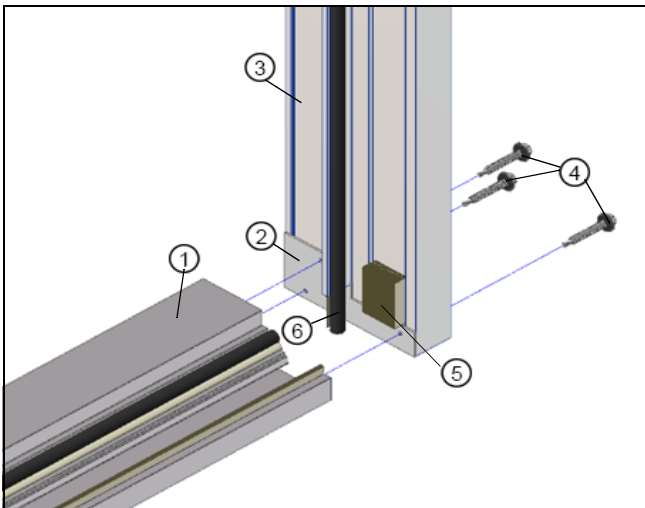
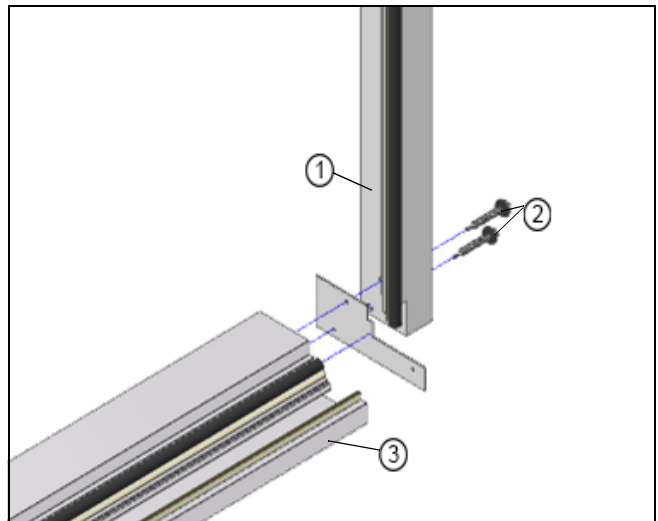

Figure 7
Figure 8
3. Align sill screw bosses with jamb assembly holes. Assemble using #12 x 1-1/2" Neo Washer Hex head screws. See Figure 7. If the unit is a sidelite, use an adapter instead of the jamb. See Figure 8. *Note: Make sure dust blocks are not being pinched and weather strip is sitting on top of the sill.*